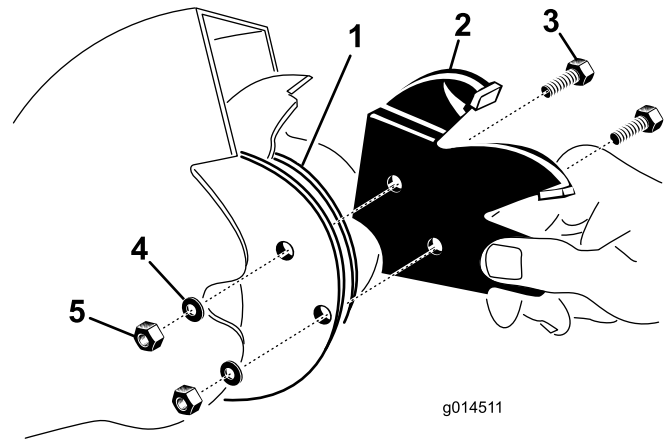

Figure 20
4. Insert the blade section between the blade mounting flanges (Figure 20), and secure them with 2 bolts, lockwashers, and nuts.
2. Remove the two bolts that hold each cutting blade section. Use care not to let a section drop and chip when they become loose (Figure 20).